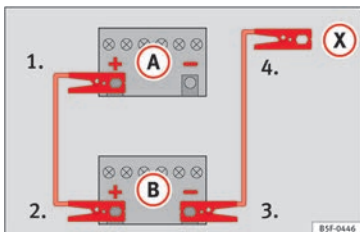

Fig. 86 Diagram of connections for vehicles without Start-Stop system.
2. Connect one end of the **red** jump lead to the positive (+) terminal of the vehicle with the flat battery **(A)** »» **Fig. 86**.
4. *For vehicles without Start-Stop system:* connect one end of the **black** jump lead to the negative terminal (-) of the vehicle providing the current **(B)** »» **Fig. 86**.